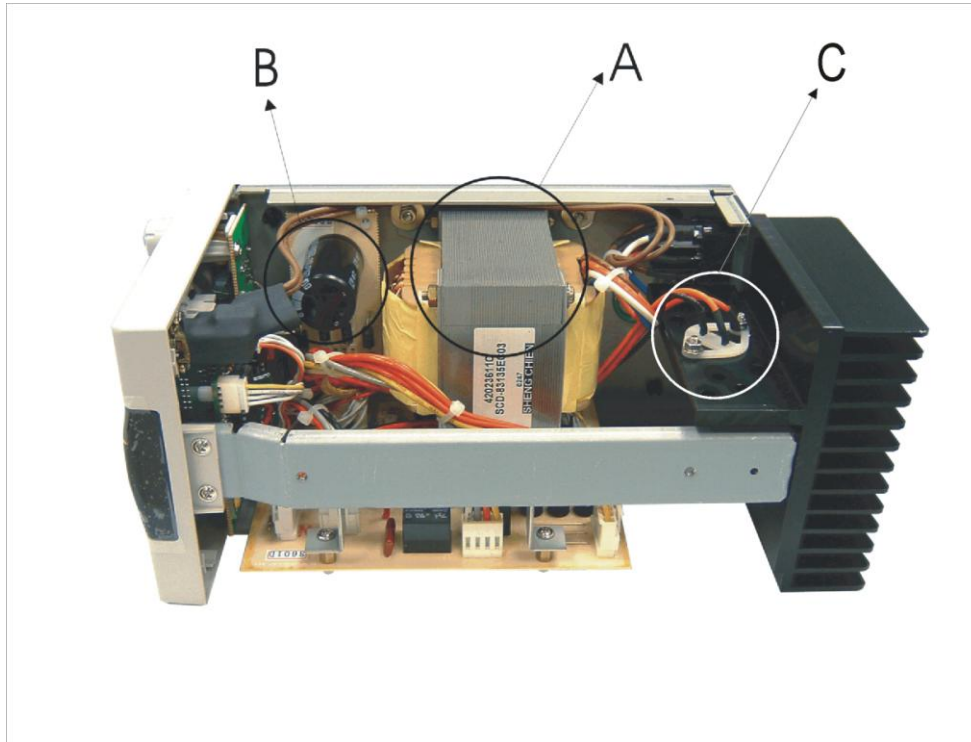

Figure 1.2: Picture of a linear (serial) power supply
Figure 1.2 shows a typical linear power supply with the main features indicated: (A) transformer comprising a core made of silicon steel sheet, (B) the big input capacitor, and (C) the big transistor with its heat sink.